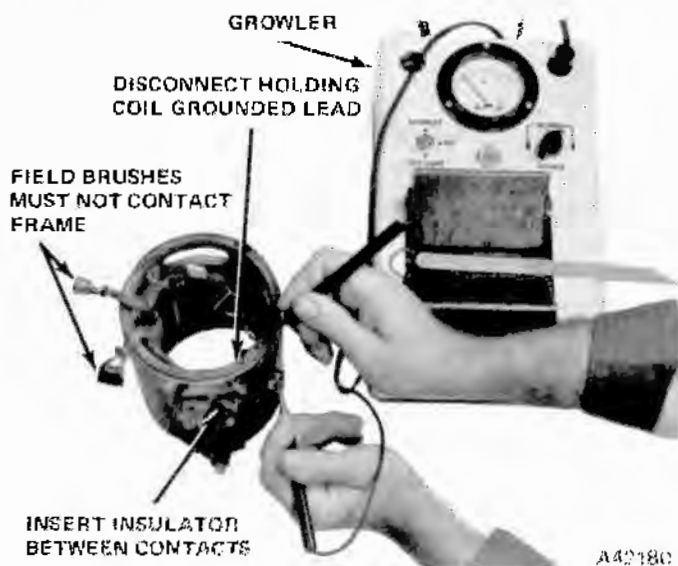

Fig. 3-44 Field Grounded Circuit Test
(1) Place insulated brushes aside so that brushes do not touch any part of starter.
(2) Remove screw that attaches solenoid point assembly brush lead to frame.
(3) Insert a piece of paper between solenoid points. Starter is now ready for testing (fig. 3-44).
(4) Connect one test prod to terminal screw and the other prod to starter frame. Test lamp should not light. If lamp lights, field windings are shorted and must be replaced.
(5) Touch one prod to terminal and the other prod to brushes (not single ground brush). Test lamp should light. If lamp does not light, check for poor or broken connections.